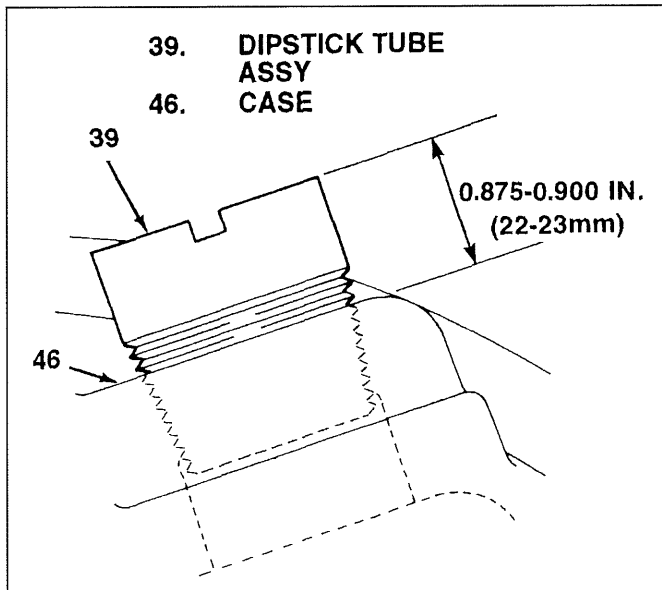

Figure 5-24: Dipstick Tube Installation
4. Install drain plug (2) and torque to 20-25 lb-ft (27-34 Nm).
5. Install dipstick tube assembly (39 or 39A) to a height of 0.875-0.900 (22-23mm). Install dipstick (1 or 1A). (See figure 5-24)